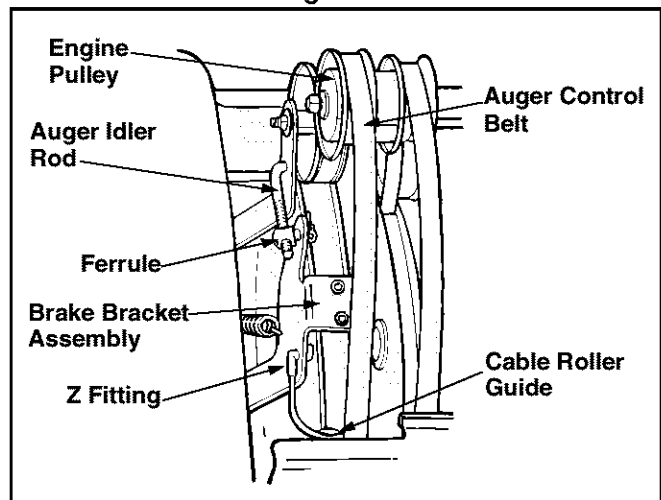

Figure 19
- Remove the cotter pin and washer from the ferrule in order to disconnect the auger idler rod from the brake bracket assembly. See Figure 19.
- Attach the "Z" fitting of the cable into the brake bracket assembly. Refer to Figure 19.